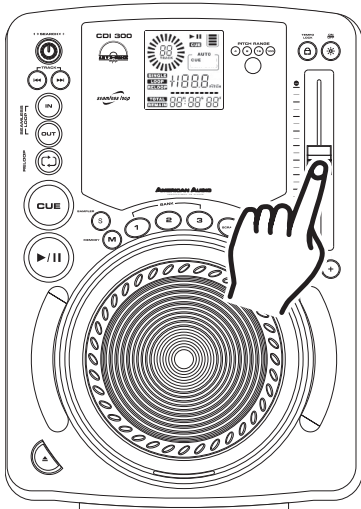
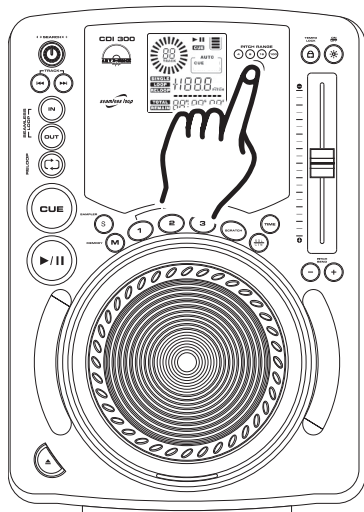

Figure 33
Figure 34
Adjusting the PITCH SLIDER'S RANGE (5): You may change the PITCH SLIDER'S (5) operating range at any time. To change the operating range be sure the pitch function is turned on, see figure 33. The pitch percentage can be changed between +/-4%, +/-8%, +/-16%, and +/- 100%. 4% will allow the least amount of pitch manipulation and 100% will allow the most amount of pitch manipulation. To adjust the different ranges, press the PITCH ON/OFF BUTTON (3) and tap on the PITCH RANGE BUTTON (1) until your desired value is reached, see figure 34.